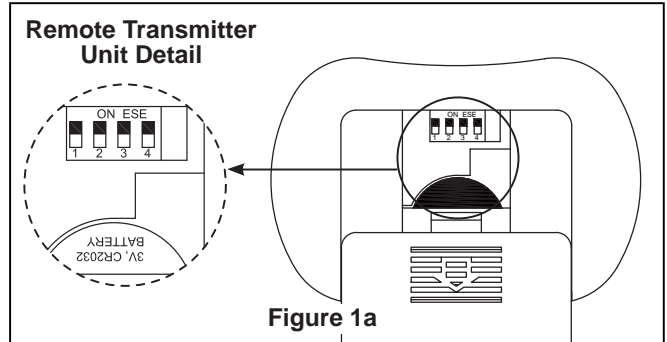

Figure 1a
- 2. Transmitter:** remove battery cover. Press firmly below arrow and slide battery cover off. Slide code switches to your choice of up or down position. Factory setting is all up. Do not use this position. With a small screwdriver or ball point pen slide firmly up or down (Figure 1a). Replace battery cover on the transmitter.